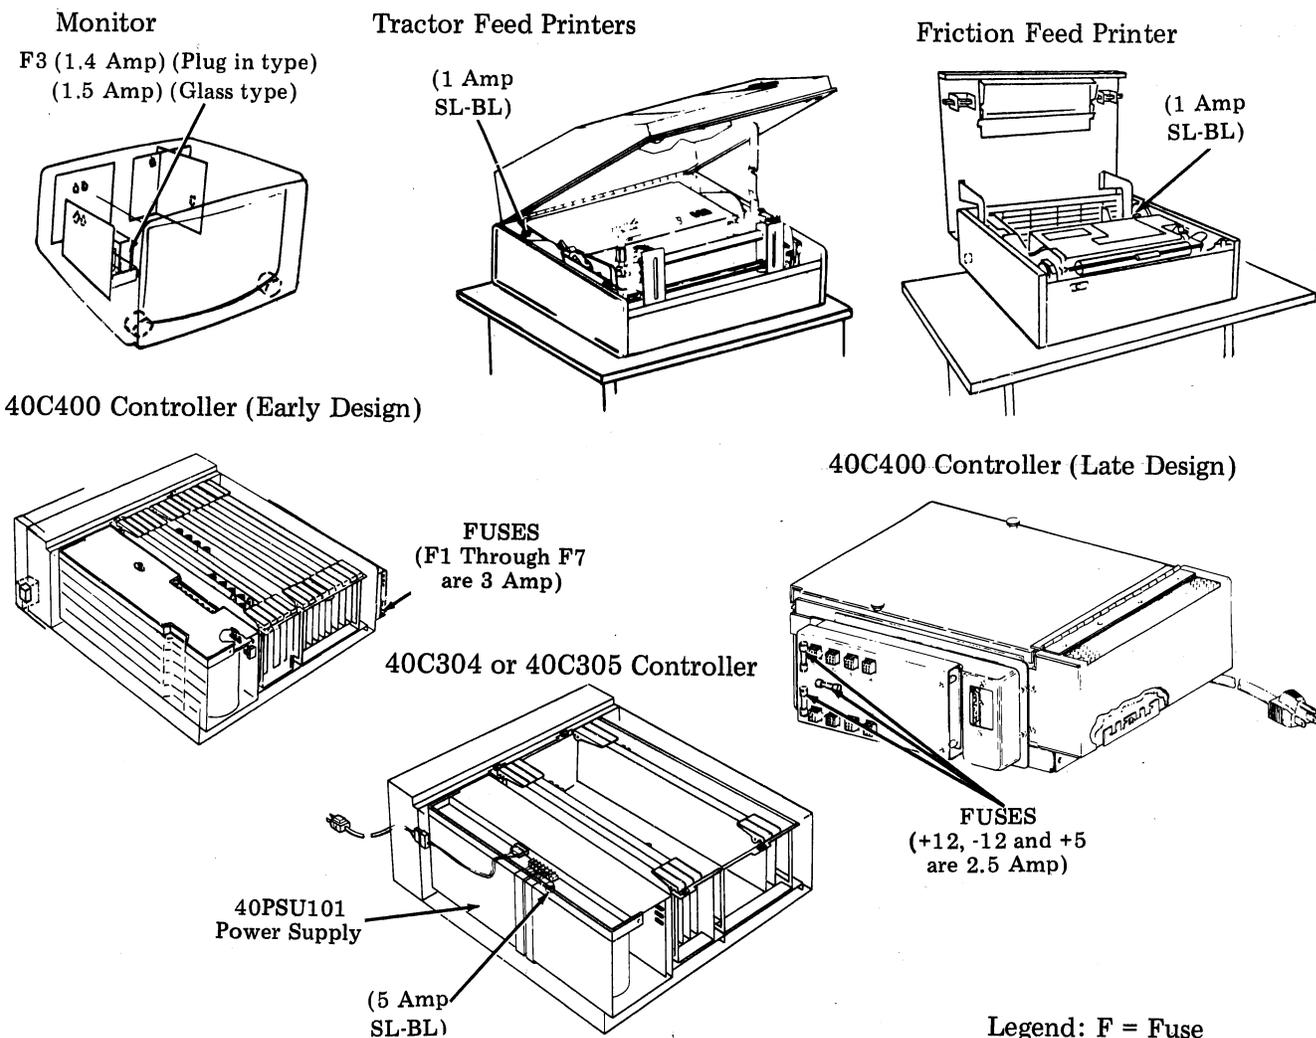

Fig. 4—Fuse Locations
3.06 Check fuses, condition and ratings (fuse ratings are critical, no higher rating than specified shall be used). Refer to Fig. 4 for locations: